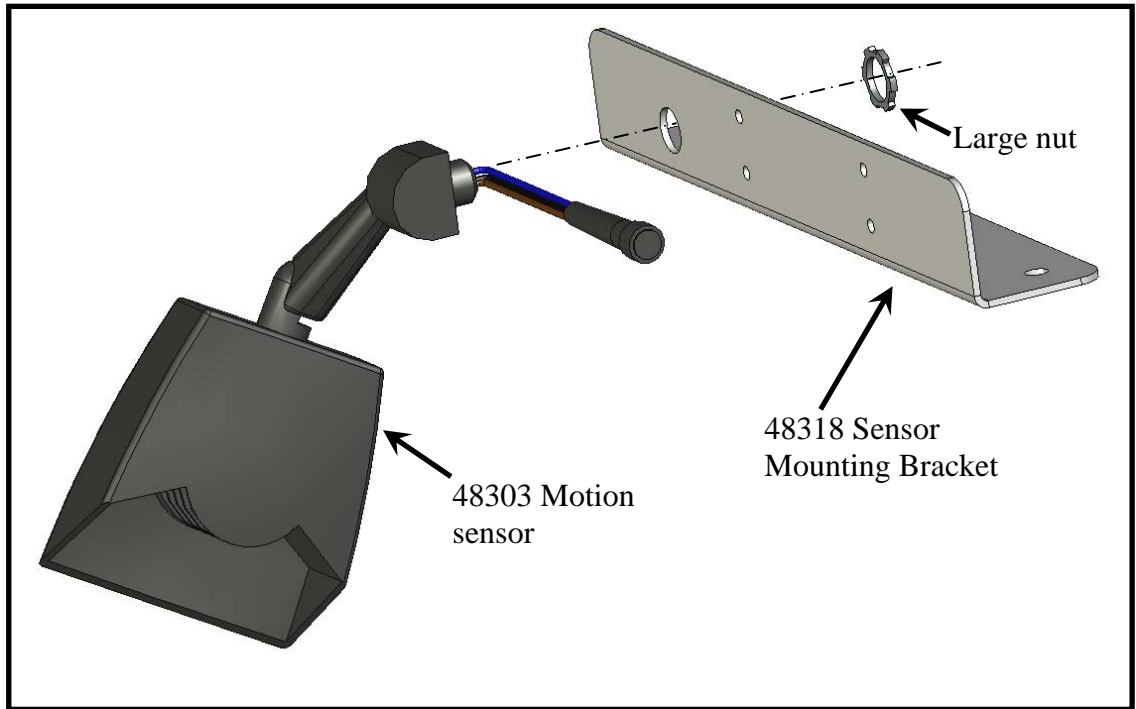

Figure 14
- b) Obtain (1) 48318 Sensor Mounting Bracket and (1) 48303 Motion Sensor.
- d) Attach motion sensor to sensor mounting bracket by inserting threaded portion of motion sensor through large hole in the mounting bracket. See Figure 14.